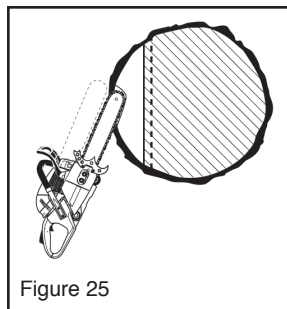
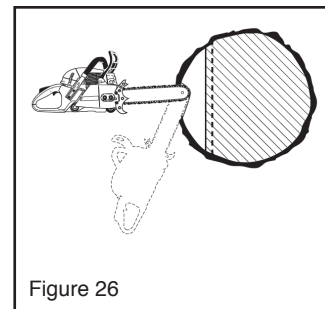

Figure 25
Figure 26
- Do not twist the saw when withdrawing the bar from a plunge cut or under buck cut (Figures 25 to 27 and 33, pages 24 and 26), because the chain can pinch.
2. Make a plunge cut in the center of the notch. The plunge cut is made with the guide bar nose. Begin the plunge cut by applying the lower portion of the guide bar nose to the tree at an angle (Figure 25). Cut until depth of the kerf (the cut) is about the same as the width of the guide bar (Figure 26).